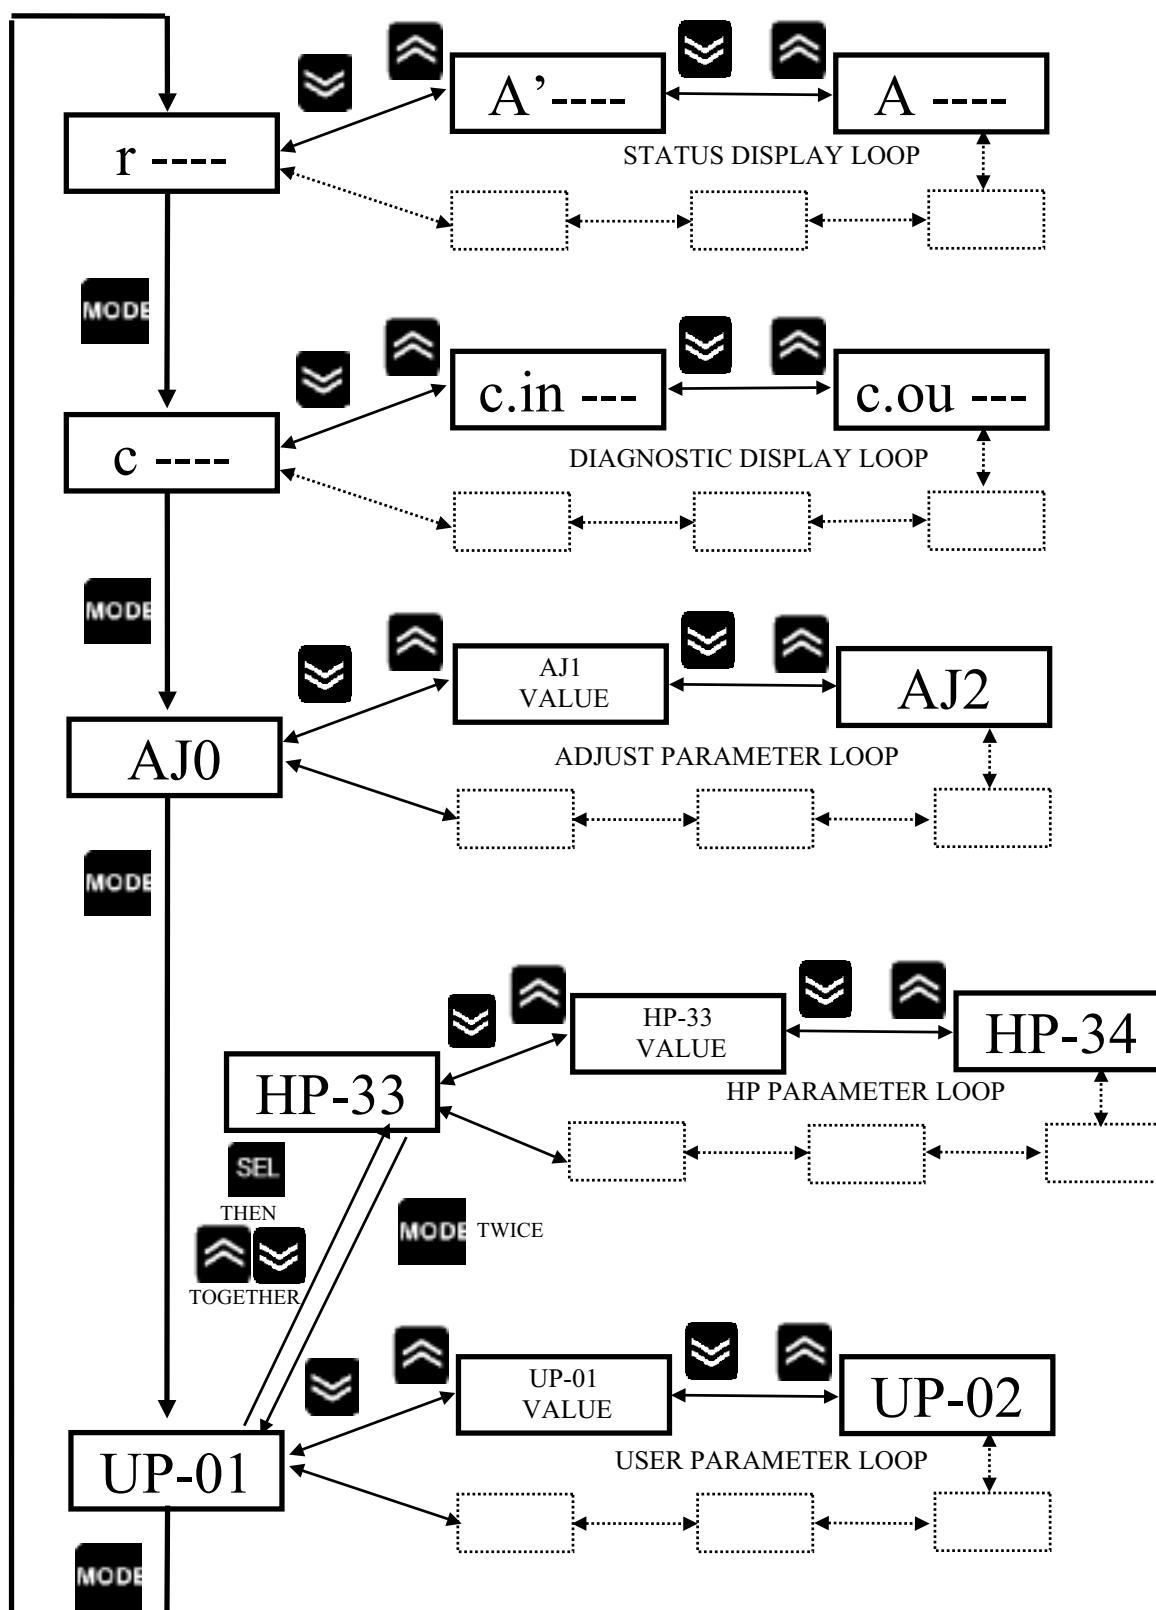

Figure 3.2 - Main Menu Loop and Minor Loops
The menu structure for programming the driver consists of a main menu loop with several minor menu loops and the Special Menu. The main menu loop and partial sections of the minor loops are shown in Figure 3.2 below.
- Navigate the main menu using the    keys to get the parameter name to be changed in the display. See Figure 3.2.